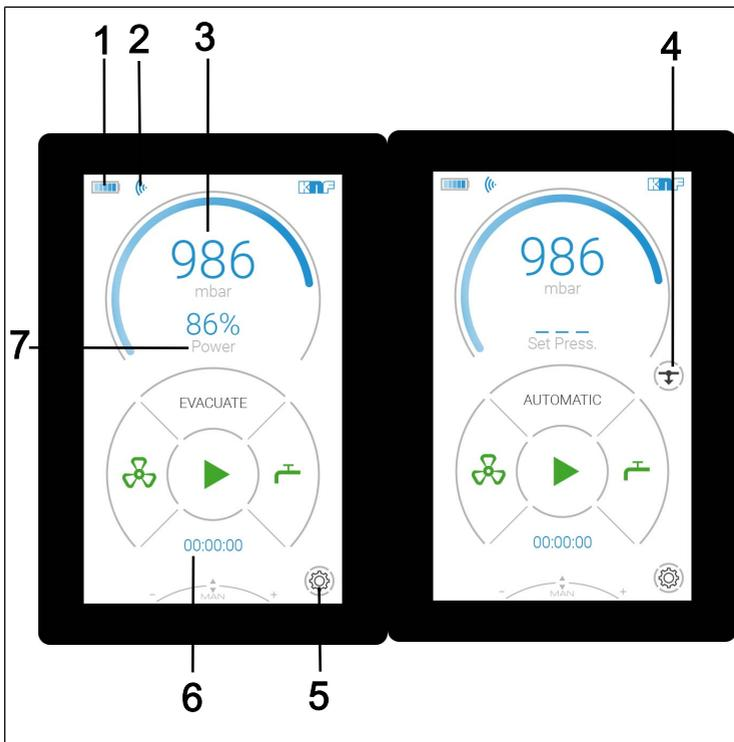

Fig. 14: Displays on the touchscreen
- Displays of the most important process variables (Fig. 14);
To select the menu language, go to Settings (Fig. 14/5).
- To end "temporary pressure regulation", the process must be stopped by pressing the symbol (Fig. 14/4).
If a boiling point is detected in *Automatic* mode, the process remains at the detected boiling point (actual pressure) and switches to a temporary pressure regulation mode. If pressure reduction (Fig. 14/4) is inactive, regulation remains permanently at the detected boiling point. If pressure reduction (Fig. 14/4) is active, an attempt is made to approach the next boiling point after about 30 seconds. When pressure reduction is active, this process is repeated continuously (see Fig. 20).
If automatic pressure reduction (Fig. 14/4) is then activated again, the arrow appears in the display again after about 25 seconds.